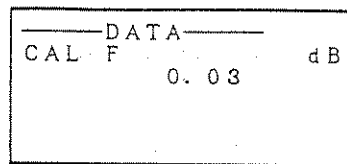

Fig. 7-2 REFERENCE CAL FACTOR Setting
2	<p>Set the read value at CAL F of the ML4803A.</p> <p>Setting method:</p> <ol style="list-style-type: none">(1) Select CAL F with the SELECT key.(2) Set the value read at step 1 with the rotary encoder (Fig. 7-2).